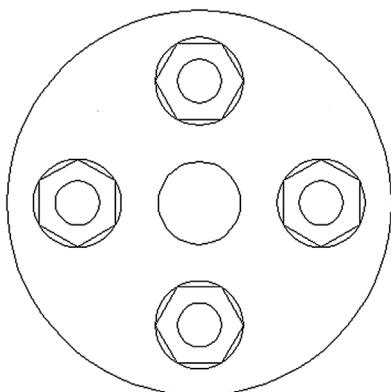

FIGURE 8.26 Bolt array completed.
**Step 6.** Array the bolt around the top view four times, as shown in Fig. 8.26.